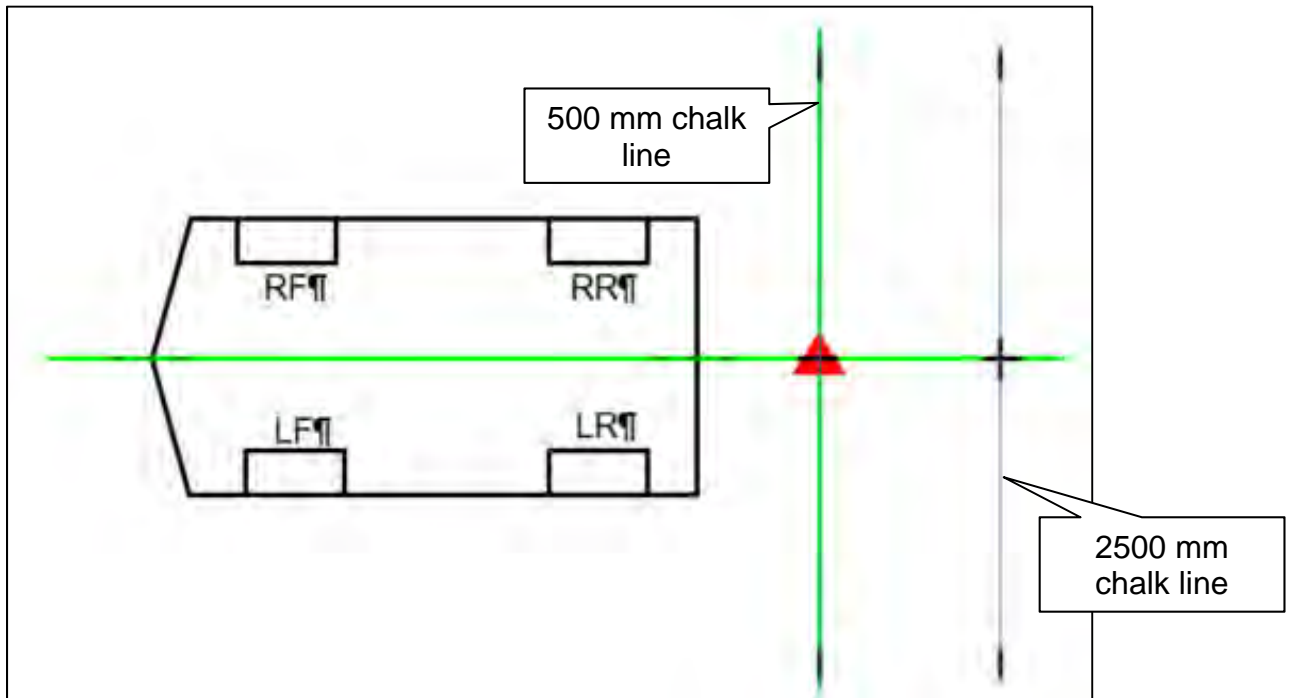

Figure 75
54. Place the laser level with both vertical lines activated, and align one laser line with the 500 mm chalk line and align the other laser line to the front and rear center point of the vehicle, as shown in Figure 75.